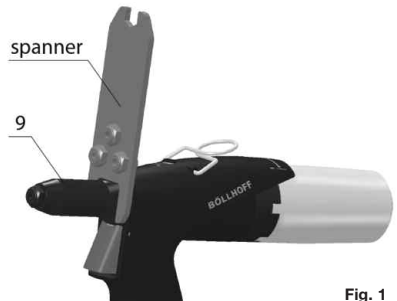
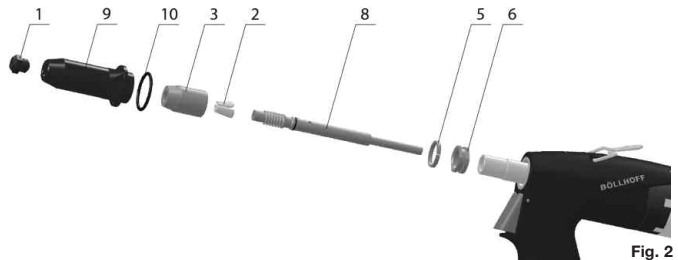
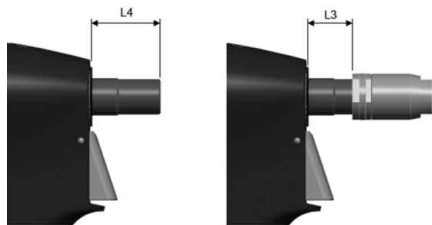
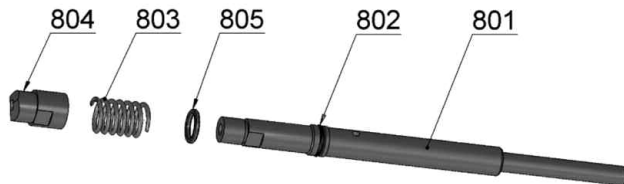

Fig. 1
Fig. 2
Fig. 3
Fig. 4
Disassembly (fig.1 and fig.2):
- Unscrew the front nose (fig.1 - pos.9) with the supplied spanner
- Remove the scraper ring (fig.2 - pos.5) from the recess of the lock nut (fig.2 - pos.6)
- Set the spanner no. 17 onto the jaw case (fig.2 - pos.3)
- Set the spanner no. 17 on the lock nut (fig.2 - pos.6) and loosen.
- Unscrew the jaw case, replace the jaws (fig.2 - pos.2) and conduit-suction complete with spring and jaw pusher (fig.2 - pos.8)
- 1) Jaws (fig.2, pos.2) - if worn or damaged, replace it, if dirty, clean it with a wire brush.
- 2) Nose piece (fig.2, pos.1) - Check that there is no wear of the functional cone of the taper.
- 3) Conduit-suction complete (fig.2 - pos.8) - inspect parts of the assembly, jaw pusher, spring, conduit-suction and O-ring - if one part is damaged or worn, disassemble (fig.4) and replace it with a new one.
- 4) Nose (fig.2, pos.9) - check for damage of the internal surface ($\varnothing$ 20).
- 5) Scraper ring (fig.2, pos. 5) - if damaged or worn, replace it with a new one.
- 6) Mandrel container (fig.1, pos. 32) - if the mandrel container is worn or damaged, replace it by a new one, otherwise there is a risk for the mandrel to be ejected.
Mount the parts in a reverse order. On the outer surface of the jaws (fig.2 - pos.2) apply a drop of lubricating oil. Apply a thin layer of plastic lubricant (we recommend MOGUL LV2-3) to the conduit-suction complete (fig.2 - pos.8). Basic set-up of the jaws is performed as in fig.3.
Conduit suction complet (fig.2 – pos.8)